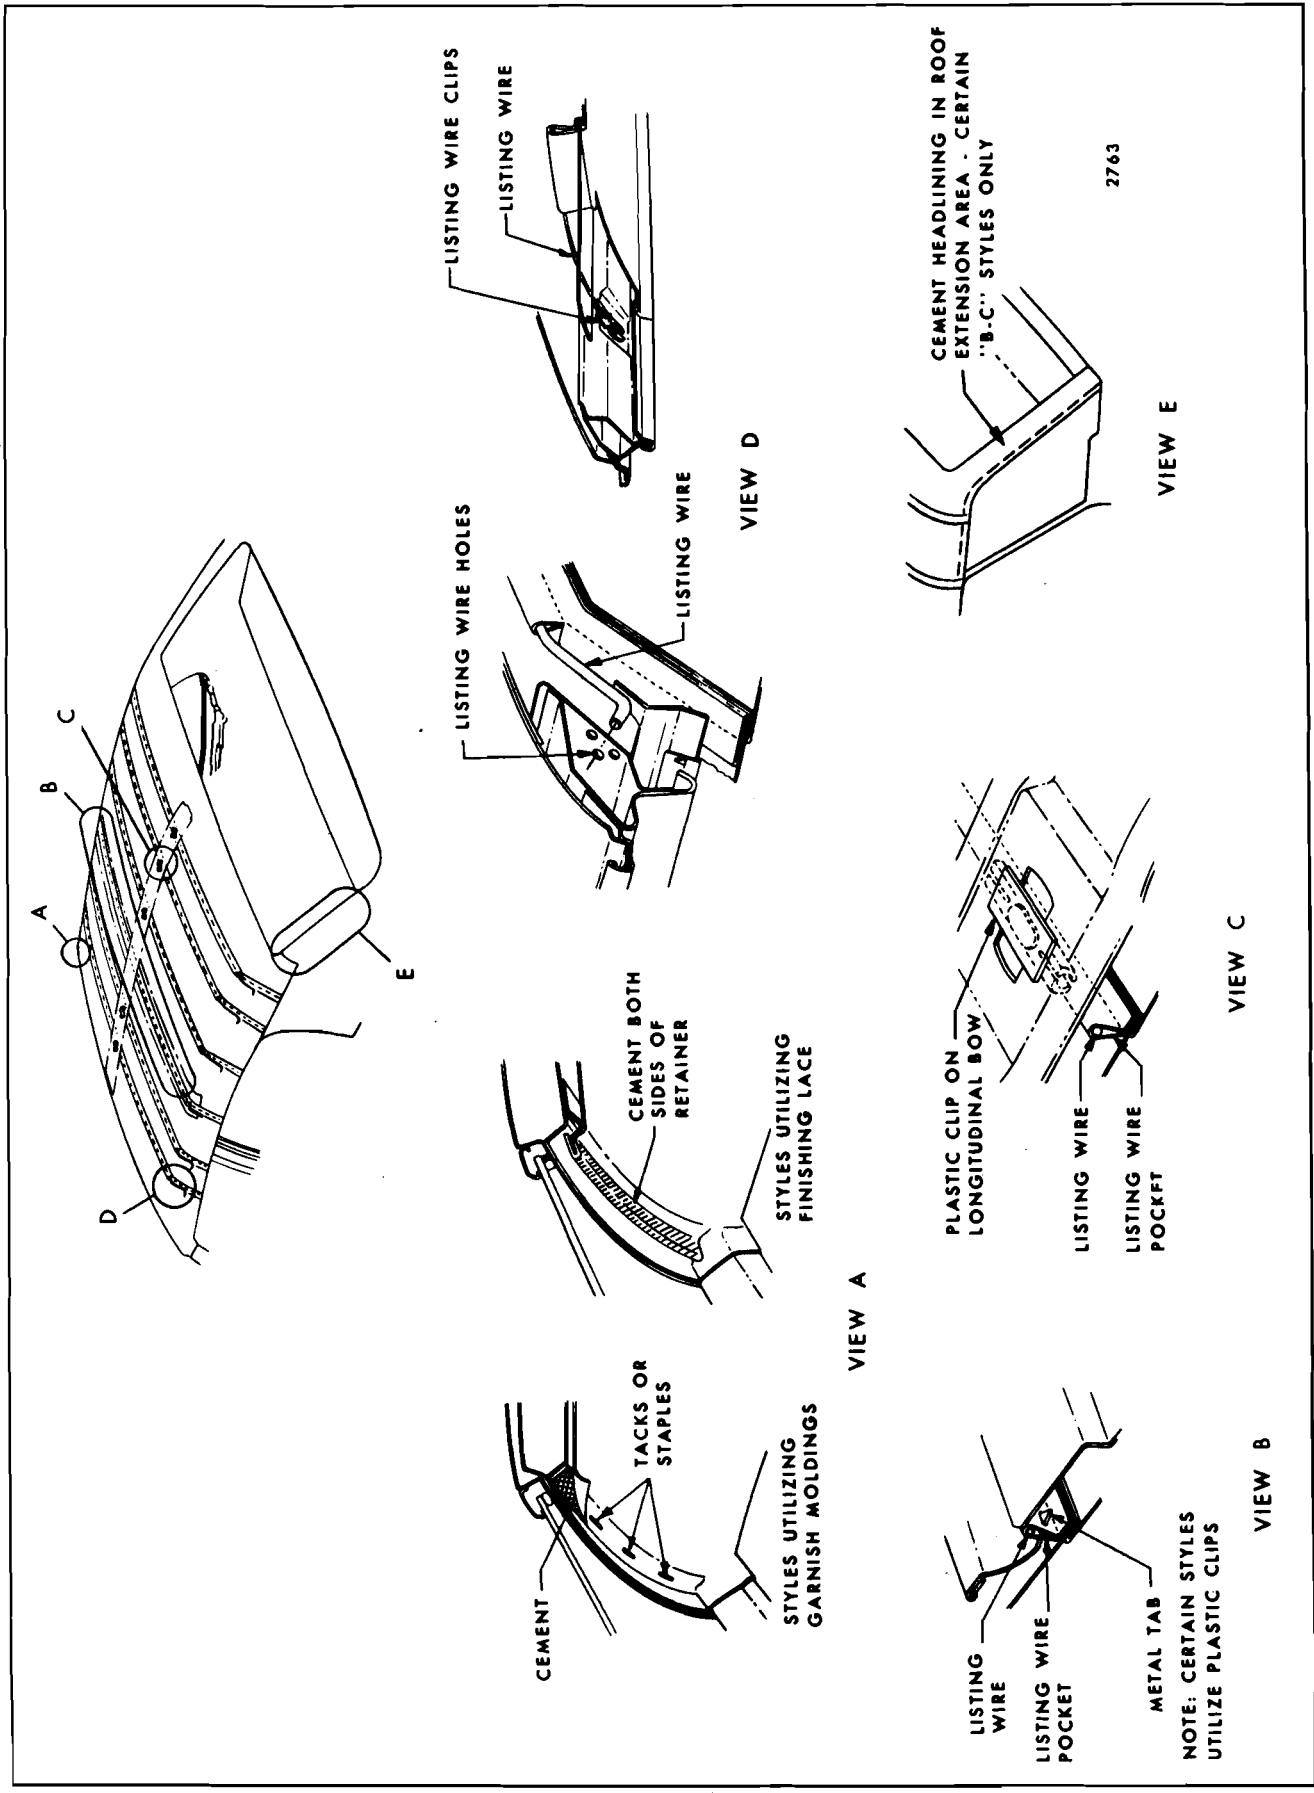

Fig. 11-1—Typical Cloth and Vinyl Headlining Installations
On certain styles, the listing wires are further attached to the roof panel by snap-in type clips on the front to rear longitudinal roof bow (Fig. 11-1, View "C").
Where garnish moldings are utilized the headlining is tacked or stapled in addition to being cemented at the windshield and back window or back body opening (See Fig. 11-1, View "A").
- 6. Starting at front of body, carefully disengage No. 1 and No. 2 listing wires from side roof inner rails and supporting clips on longitudinal (front to rear) bow on styles so equipped (See Fig. 11-1, View "C"). In like manner, working from rear of body, disengage listing wires from side roof rails and supporting clips on longitudinal bow. Exercise care to keep headlining material clean by gathering or folding headlining with listing wires on outside.
- 2. Apply an approved non-staining trim cement to headlining attaching surface at windshield, side roof rail and back window or back body opening. On styles that utilize finishing lace be certain cement is applied to both sides of retainers (See Fig. 11-1, View "A").
- 3. Lift headlining assembly into body and install No. 3 listing wire and listing wire pocket over metal tabs at roof bow and bend up tabs to secure wire to bow. On styles that incorporate plastic clips in place of metal tab, snap No. 3 listing wire into clips (See Fig. 11-1, View "B" and "C").
- 4. Working rearward from No. 3 listing wire, install listing wires in side roof rails and snap listing wires into plastic clips on longitudinal bow (on styles equipped with longitudinal bow). In like manner, working forward, install remaining listing wires (See Fig. 11-1, View "C").
- NOTE:** Listing wires may be adjusted up or down by utilizing appropriate holes in side roof rails. Listing wires should rest tight against roof panel after installation (See Fig. 11-1, view "D").